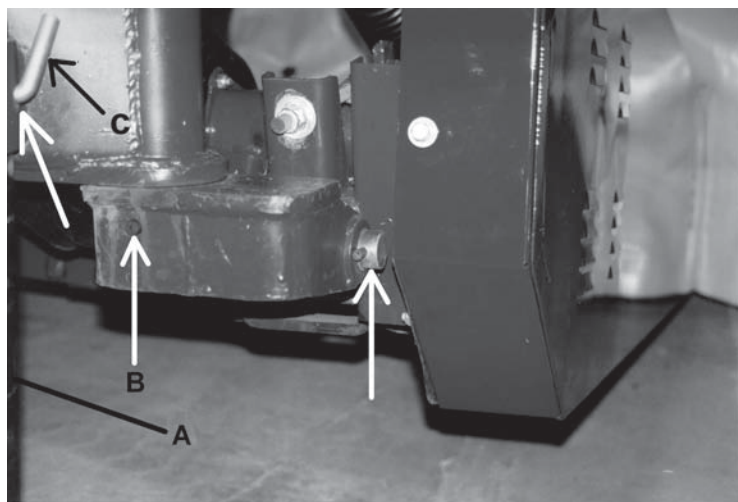

Figure 2
3. Install the Stand Tube (A) in the 3-point frame and secure with the lock pin(C). (See **Figure 2.**)